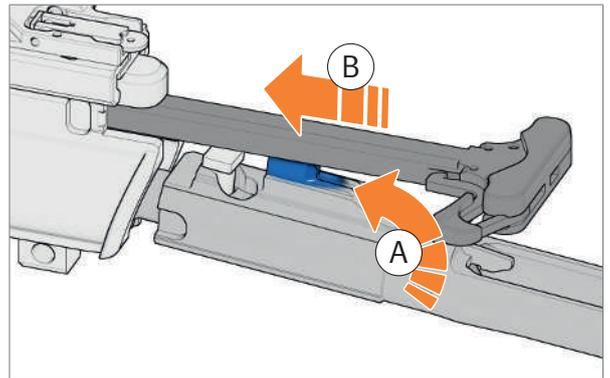

Fig. 123: Inserting bolt group into charging handle
3. Insert guide cam of bolt group into guide groove of charging handle (Fig. 123).